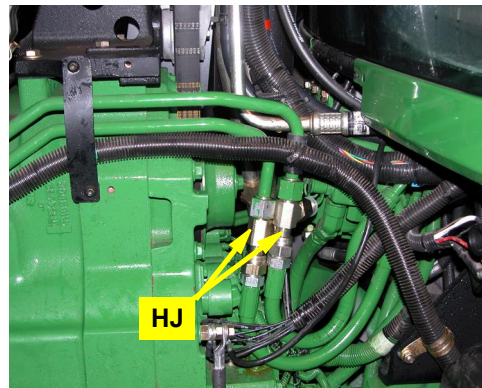

Figure 3c: Installed steering line run-tees
- c. Install run-tees **HJ** at the junction of the steel and rubber sections of the steering lines. (Figure 3c)